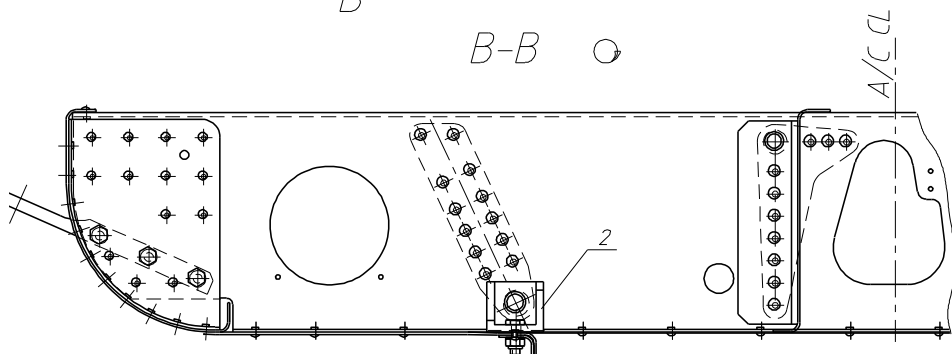

Fig. 2
2. Remove the bolts (13) of fitting (2) attachment to fuselage (see fig. 2).
3. Drill out the rivets (11, 12) with Ø3.1 mm drill bit (see fig. 2).
4. Apply the reinforcing angle to fuselage (1), drill it to the fuselage and fix with Clico fasteners.
5. Drill the bolt holes (13) with Ø6.2 mm drill bit in fuselage and ream them with Ø1/4H7 reamer.
7. Fix the angle (1) with Clico fasteners.
8. Install the bolts (13) with primer.